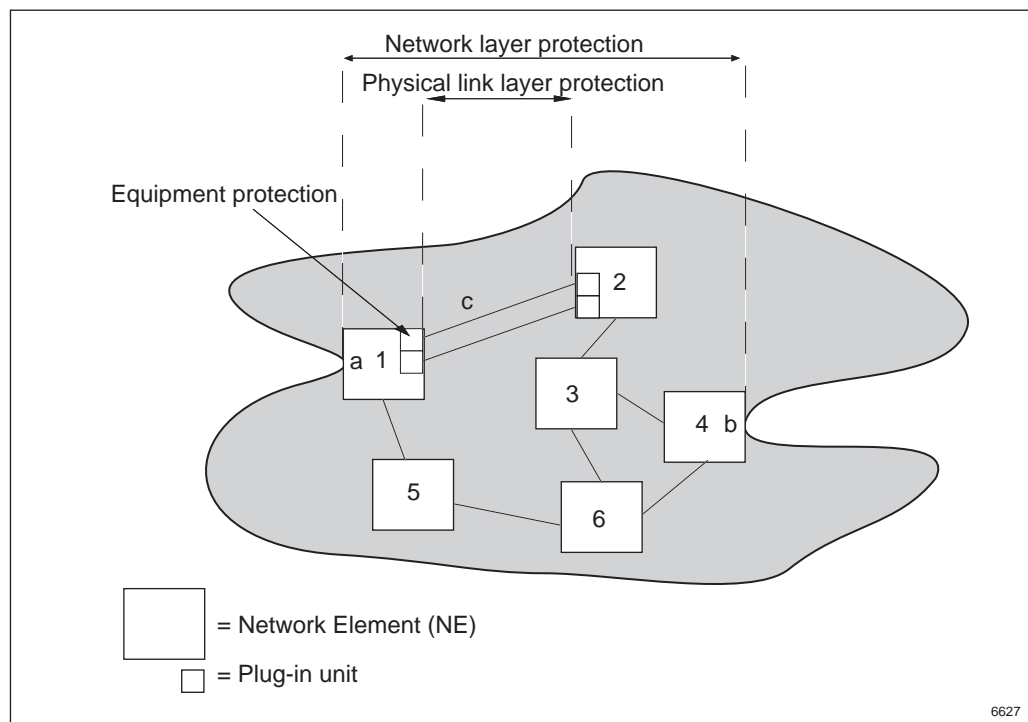

Figure 75 The NE Provides High Availability Through Various Protection Mechanisms
To ensure high availability, MINI-LINK 6600 provides protection mechanisms on various layers in the transmission network as illustrated in Figure 75.
- Network layer protection using the 1+1 SNCP mechanism provides protection for the sub-network connection **a-b** in Figure 75. Network layer protection uses only signal failure as switching criterion.
- Physical link layer protection using MSP 1+1 indicated by the link **c** between two adjacent NEs **1** and **2** in Figure 75. Physical link layer protection uses both signal failure and signal degradation as switching criteria.
- By routing the protected traffic in parallel through different physical units, equipment protection can also be achieved. An example using two plug-in units is shown for the NEs **1** and **2** in Figure 75.